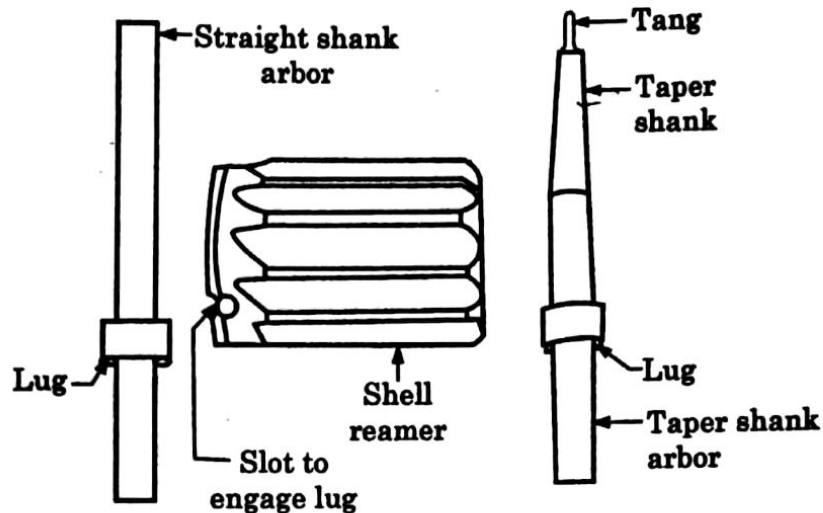

Fig. 2.42 : Shell Reamer with Arbors
6. Shell Reamers : These reamers are different from the solid type reamers. They do not possess the shank. Such reamers are frequently used for size over 20 mm in order to save on cutting tool material. The same arbor may be used with any number of shells and only the shell is subjected to wear and requires to be replaced when worn. The arbor may have a straight or taper shank. Two standard types of arbors and a straight fluted shell reamer are shown in fig. 2.42. The shell is usually made of high speed steel.